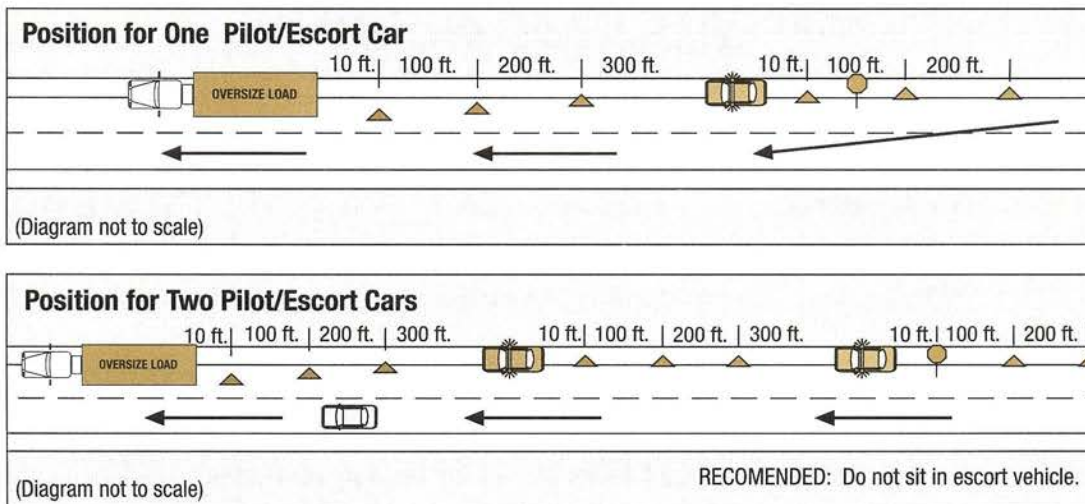

FIG. 6.3-2 MULTI-LANE HIGHWAY ONE-WAY TRAFFIC WARNING DEVICE PLACEMENT AND FLAGGER LOCATIONS
- For accident or breakdown on divided highways or one-way roads: (See Figure 6.3-2)